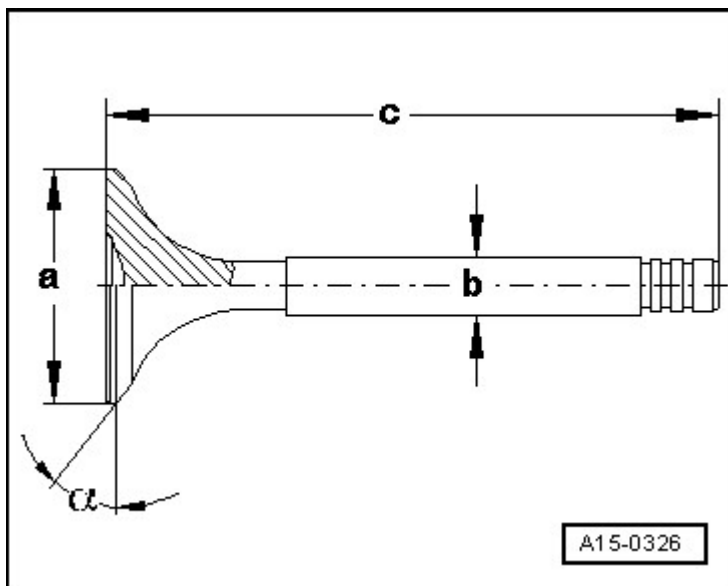

Fig. 24: Identifying Valve Dimensions
- For the correct valve dimensions, refer to **Fig. 24**